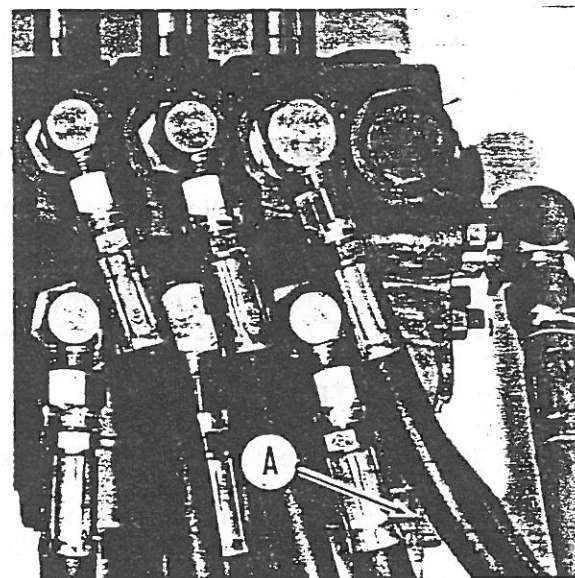

Figure 11
- C. If a closed center tractor hydraulic system is being utilized, refer to the section of this manual entitled **Closed Center Hydraulic Systems** — Figure 11.
- A. Remove the cover nut, Point A of Figure 11, from the valve bypass. This exposes a socket head screw.